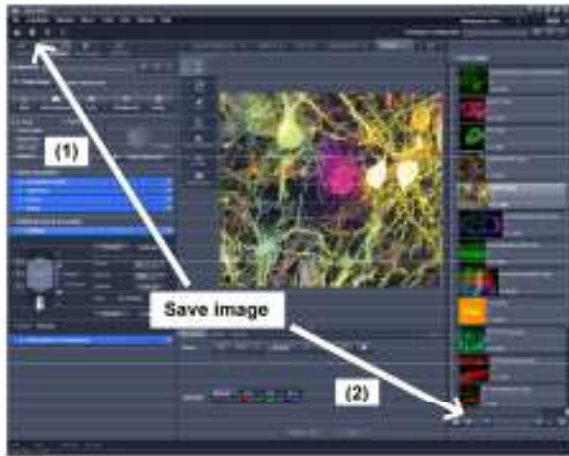

Fig. 25 Save Image buttons in ZEN
- To save your acquired or processed images, click on the **Save** or **Save As** button in **File Menu**, or click the  button in the **Main Toolbar** (Fig. 25/1), or click on the  button at the bottom of the **File Handling Area** (Fig. 25/2).